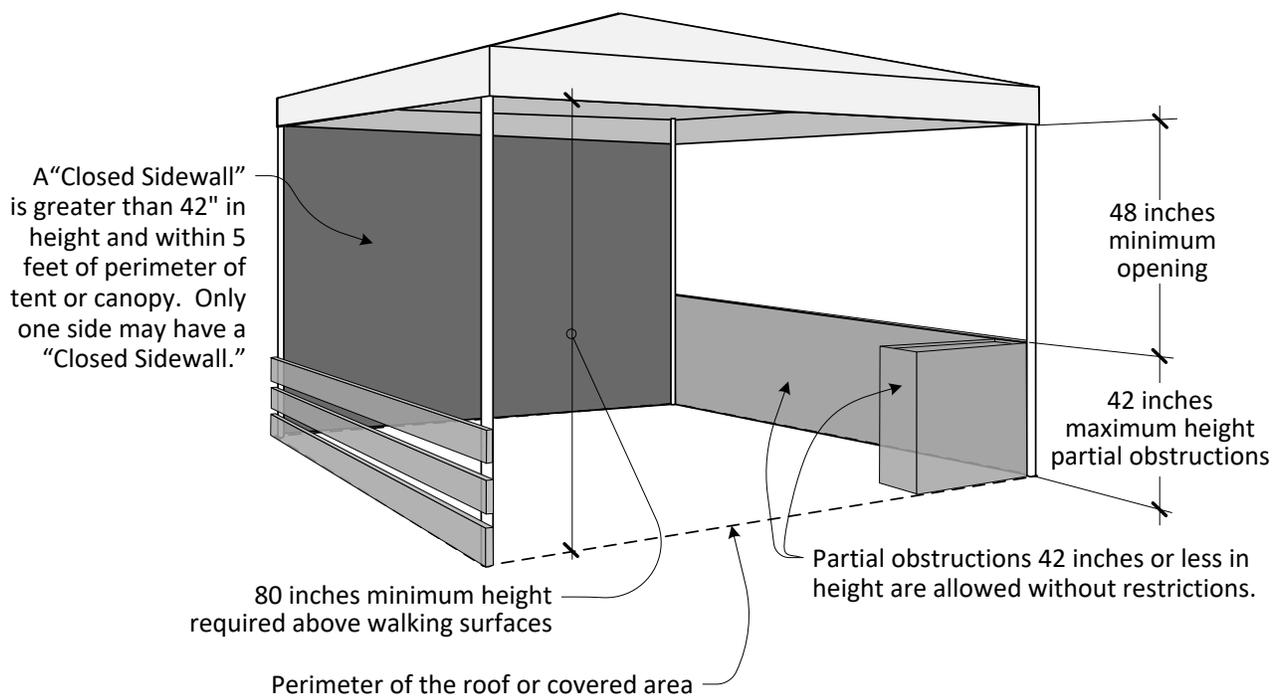

Figure 1
- Outdoor tents, canopies or membrane structures open to the public must have openings to allow airflow as provided in these guidelines. Only one full side of the roofed or covered area may have a "closed sidewall" (see Figure 1). The combined sidewall area (all 4 sides) shall not have less than 50% of clear unobstructed opening.